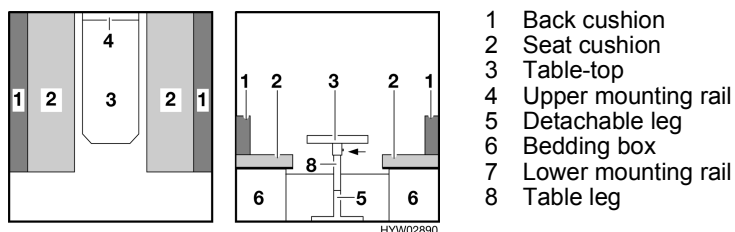

Fig. 32 Prior to conversion
- Place the seat cushions (Fig. 32,2) in an upright position.